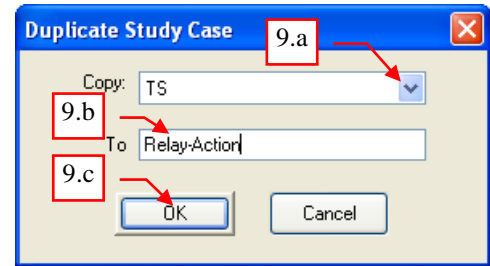

Fig. 4
9. The “Duplicate Study Case” dialog box will be displayed as shown in Fig. 4.